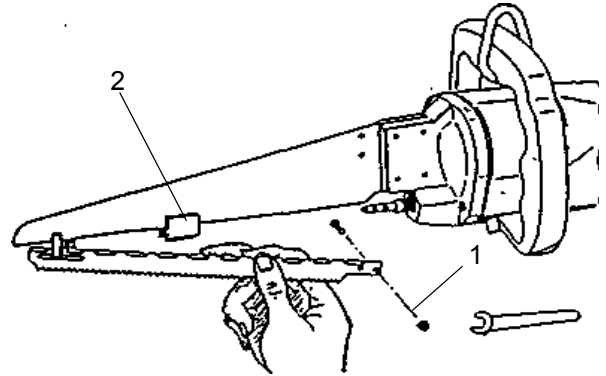

Figure 3: Saw blade changing
- Loosen hex. nut (1) and remove the saw blade by swinging out to the side by hand. (see Fig. 3)
- Replace the saw blade and install in the reverse order, lubricate saw blade guide (2) with special grease 001 365 623.